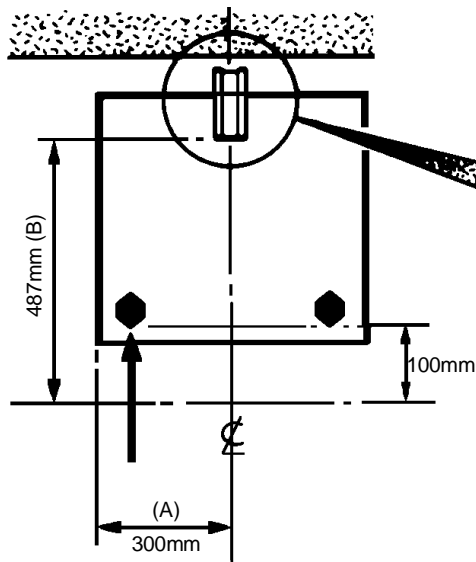
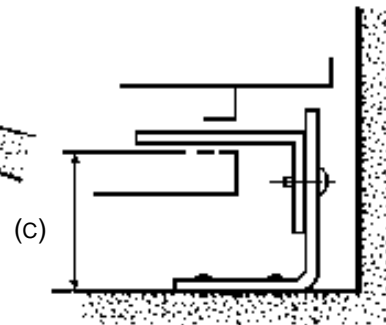

Fig 4a
Fig 4b
2. Mark off 300 mm from the left hand side of the appliance as shown in dimension 'A' Fig 4a. This is the centre line of the fixing bracket.
3. Draw a line across the front edge of the feet (see Fig 4a) and remove appliance from its position. Mark off dimension 'B' (see Fig 4a) back from this line on the centre line of the bracket to locate the front edge of the lower bracket. Fix lower bracket (with two fixing holes) to the floor then measure the height from floor level to engagement edge on back of appliance, dimension 'C' of Fig. 4b.
4. Assemble upper bracket to lower bracket so that underside of bracket is dimension 'C' + 3mm above floor level. (see Fig. 4b).
Reposition appliance and check that top bracket engages into appliance back, as shown in Fig. 4b.